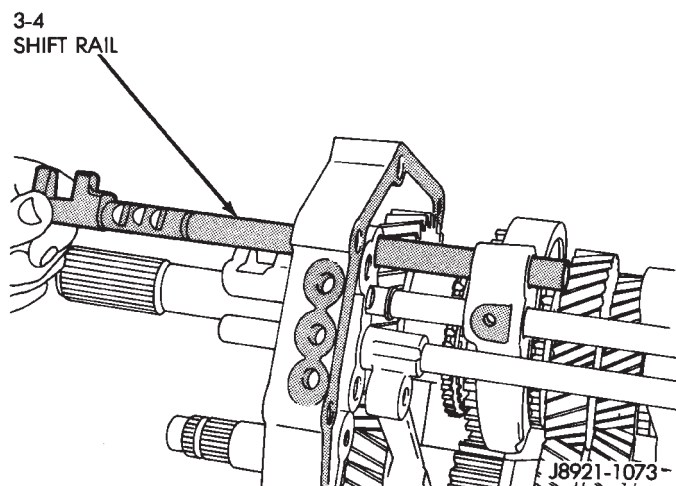

Fig. 94 Installing 3-4 Shift Rail
(10) Install 3-4 shift rail in intermediate plate and in both shift forks (Fig. 94).
(11) Verify that none of the interlock balls, plugs,